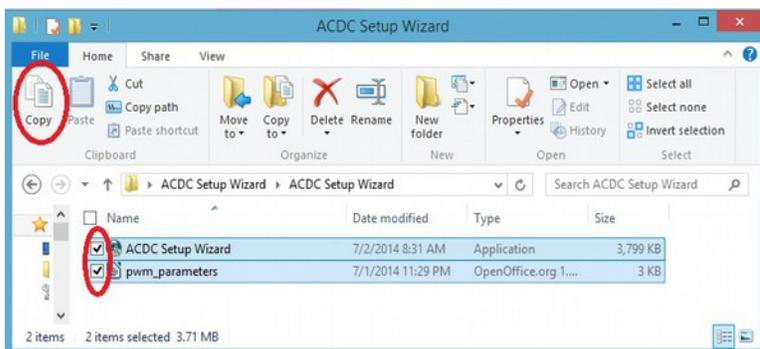

Figure 3.3.2
2. Copy both files as demonstrated in Figure 3.3.2.